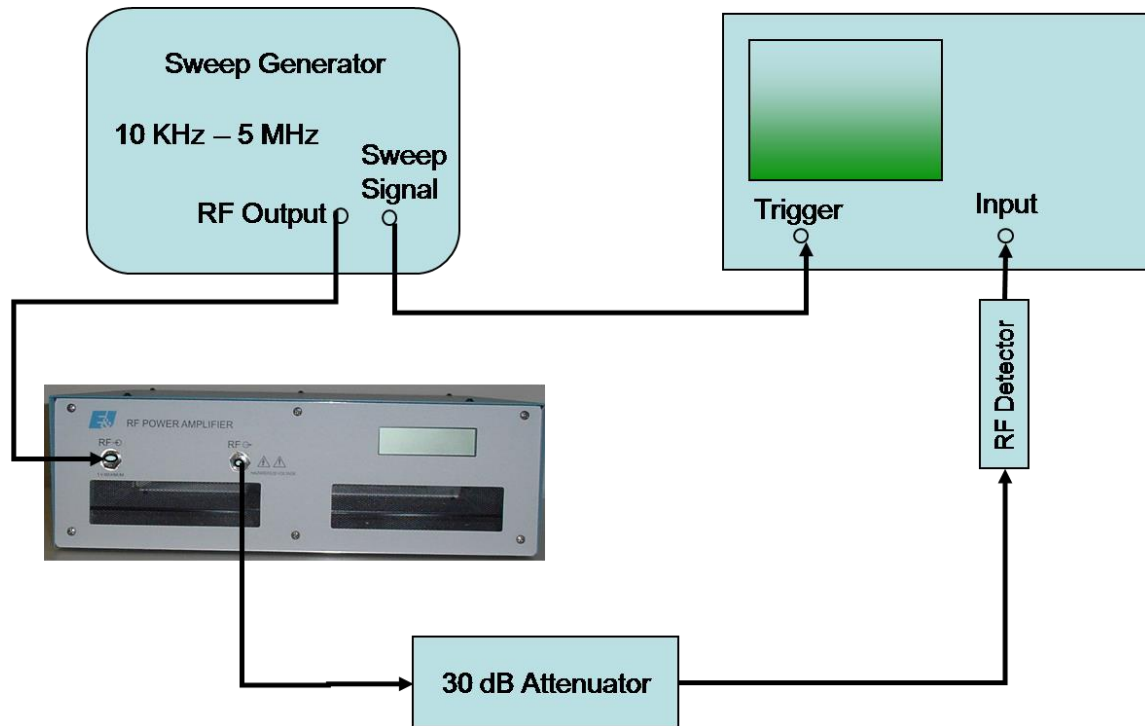

Figure 4-1. Gain Measurement
2. Connect the equipment as shown in Figure 4-1, then proceed as follows:
- g) Reconnect the 1020L into the test set-up of Figure 4-1.